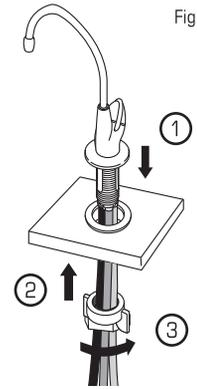

Fig. 20
3. Holding the foam gasket in place against the faucet body, lower the eSpring Faucet stem and tubes through the hole in the sink ledge or counter (1). With an assistant holding the faucet in place, reach up from below the counter and slide the wing nut onto the threaded faucet (2). Position the faucet in the desired orientation and tighten the wing nut to secure the faucet in place (3) (Fig. 20).